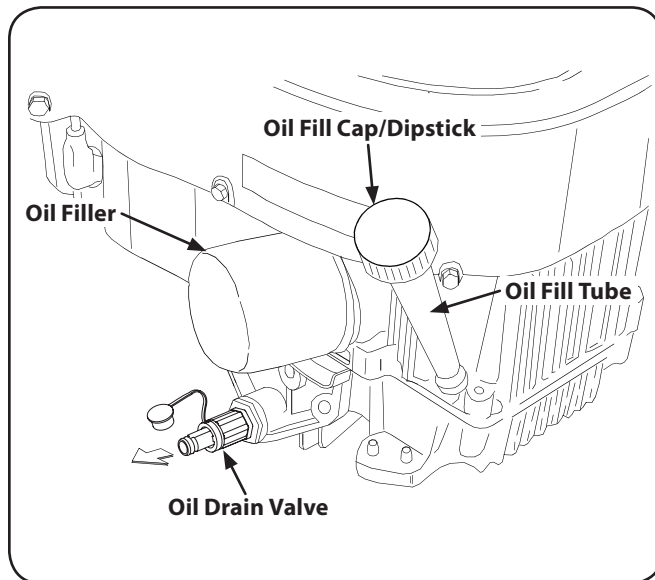

Figure 6-1
3. If your engine has the oil drain valve setup shown in Fig. 6-1, see the Oil Drain Valve section below.
1. Pop open the protective cap on the end of the oil drain valve to expose the drain port. Refer to Fig. 6-1. Remove the oil fill cap/dipstick from the oil fill tube.